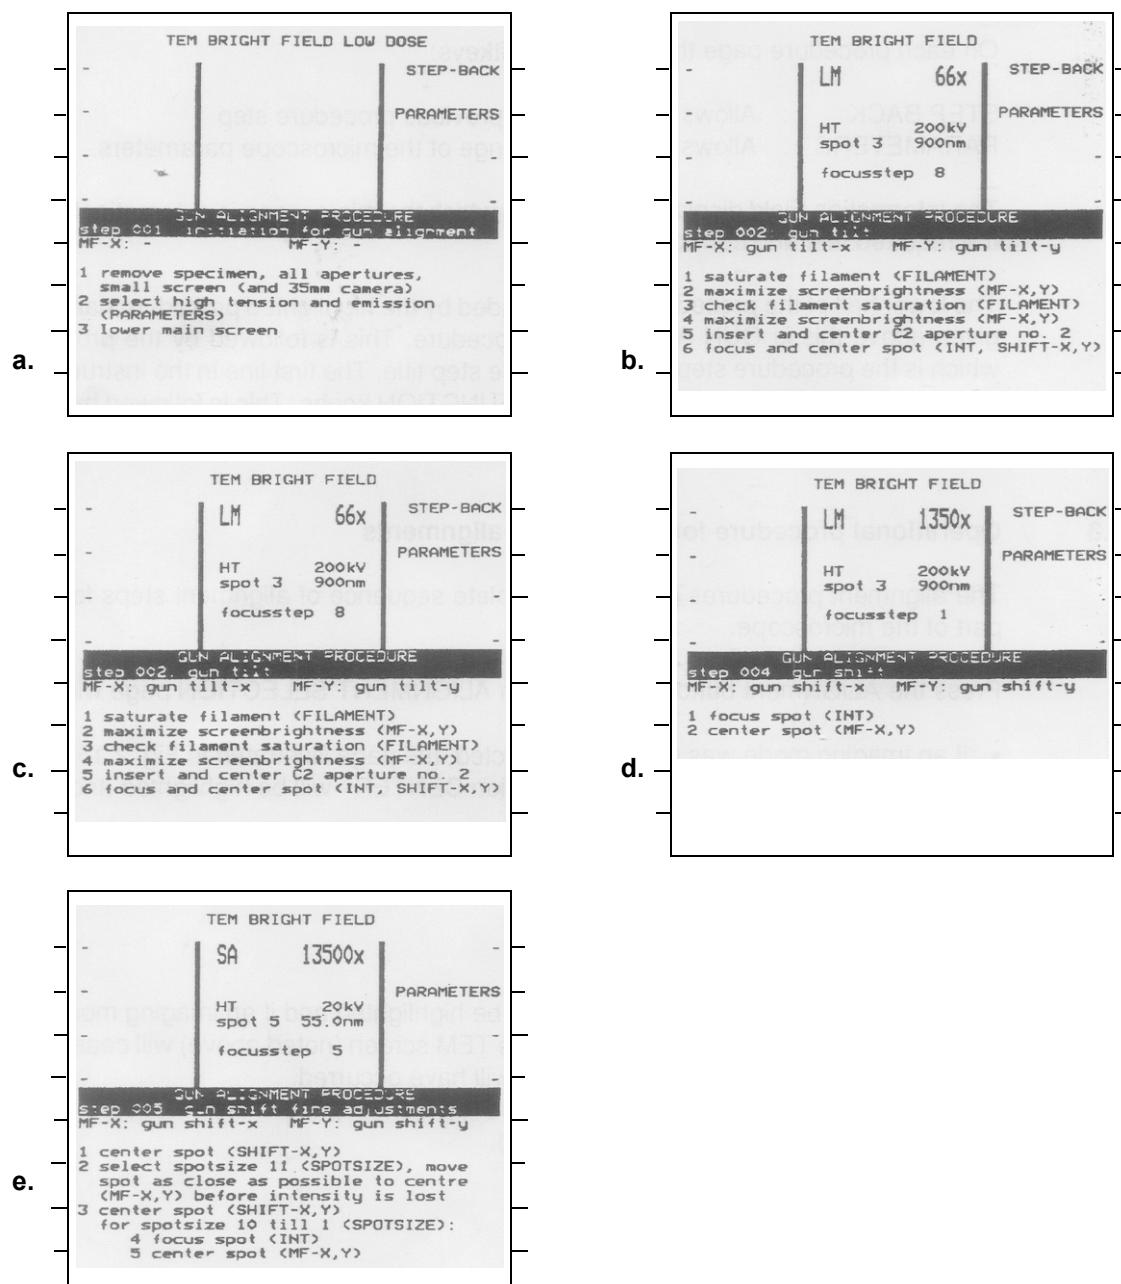

Fig. 2.16. Gun alignment procedure
- Key the selected label a second time to call up the first page of the procedure. Fig. 2.16 shows an example for carrying out the GUN ALIGNMENT PROCEDURE.